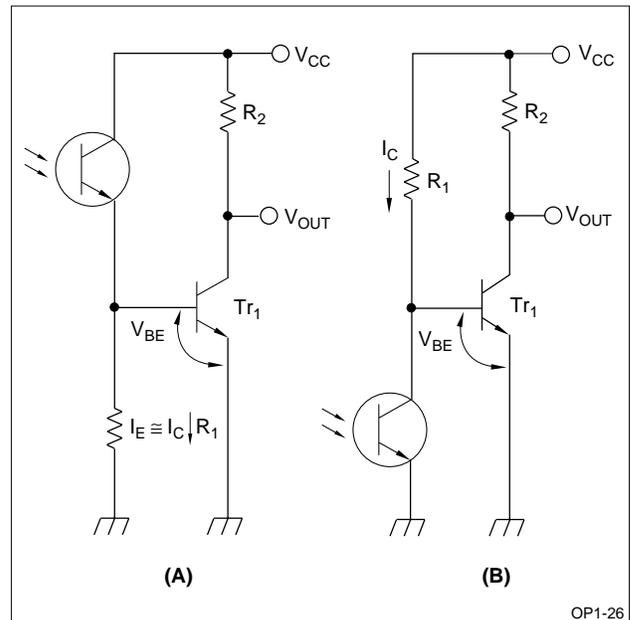

Figure 11. Amplifier Circuit using Transistor
Figure 11 shows the transistor amplifiers used to amplify the collector current of the phototransistor using a transistor ( $Tr_1$ ). The circuit in Figure 11 (A) increases the output from high to low in response to a light input. The value of resistor  $R_1$  depends on the input light intensity, ambient temperature, response speed, etc., to meet the following conditions: